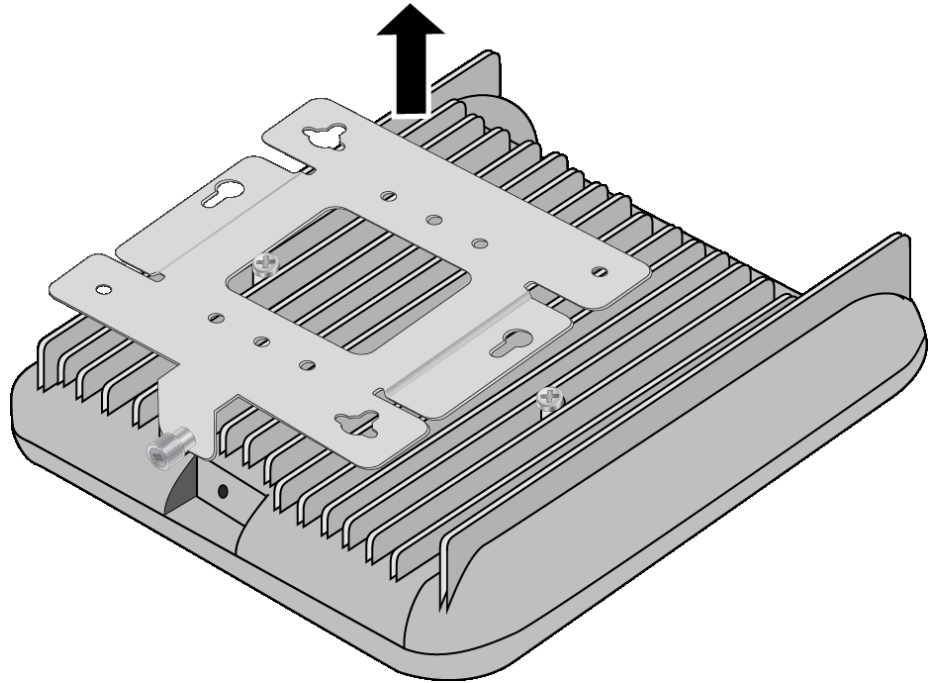

Figure 20. Removing the Wall Mounting Bracket from the Access Point
5. Remove the wall mounting bracket from the access point. Refer to Figure 20.